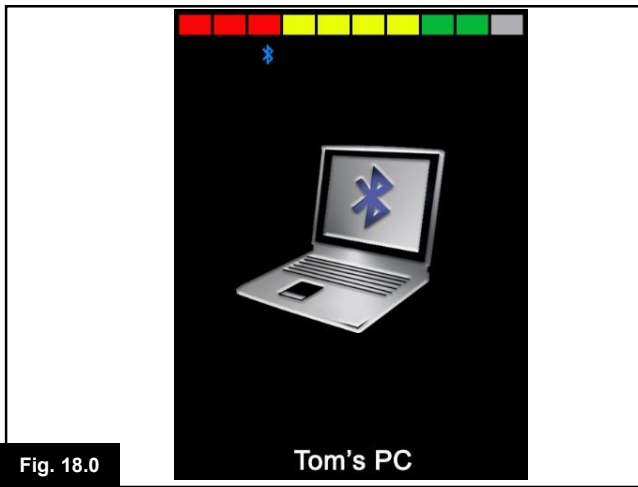

Fig. 18.0
18.0 Pairing with a Bluetooth Device (Fig 18.0)
A screen such as shown in Fig 18.0 will appear – the flashing blue icon confirming the Omni2 is in Discovery Mode.